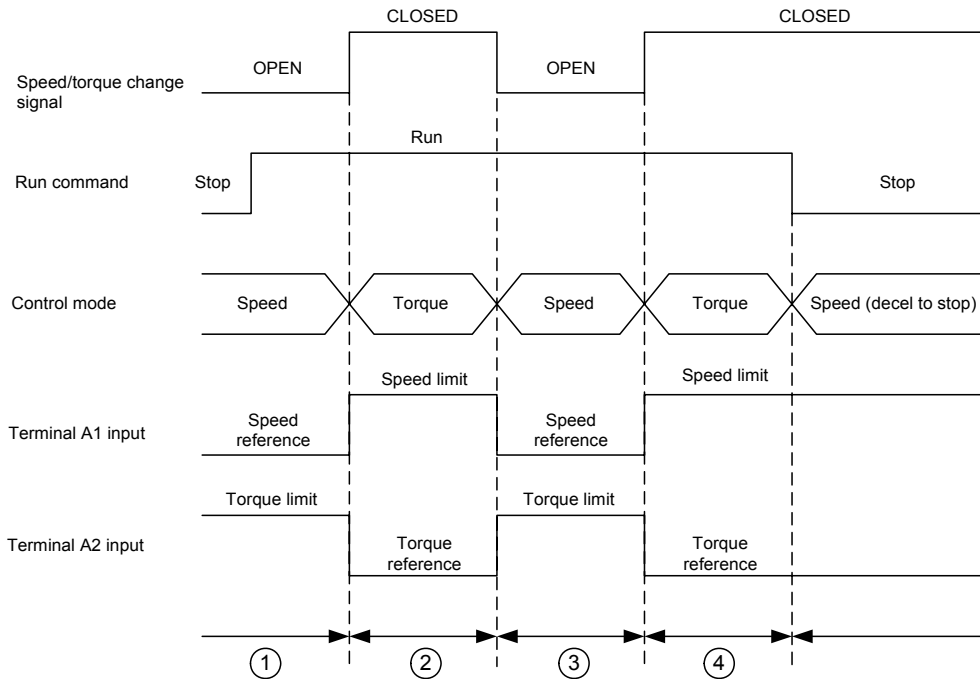

Fig 6.88 Speed/Torque Control Switching Time Chart
*Fig 6.88* shows an example of speed/torque control switching.